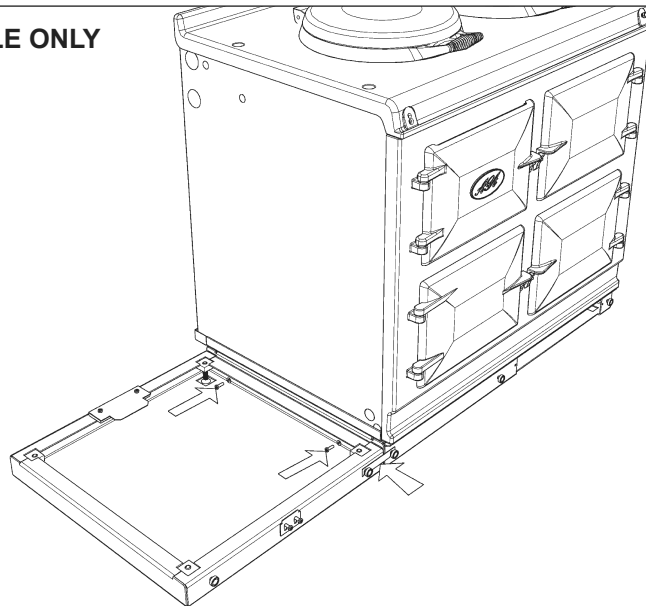

Fig. 9.5
9. Attach Module plinth to the AGA Total/Dual Control plinth using 2x M6 screws and washers provided (See **Fig. 9.5** or **Fig. 9.6**). Slide front jointing bracket into place over two adjacent magnets, locking the two appliances together.